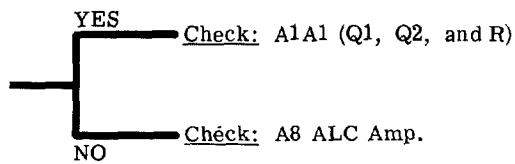
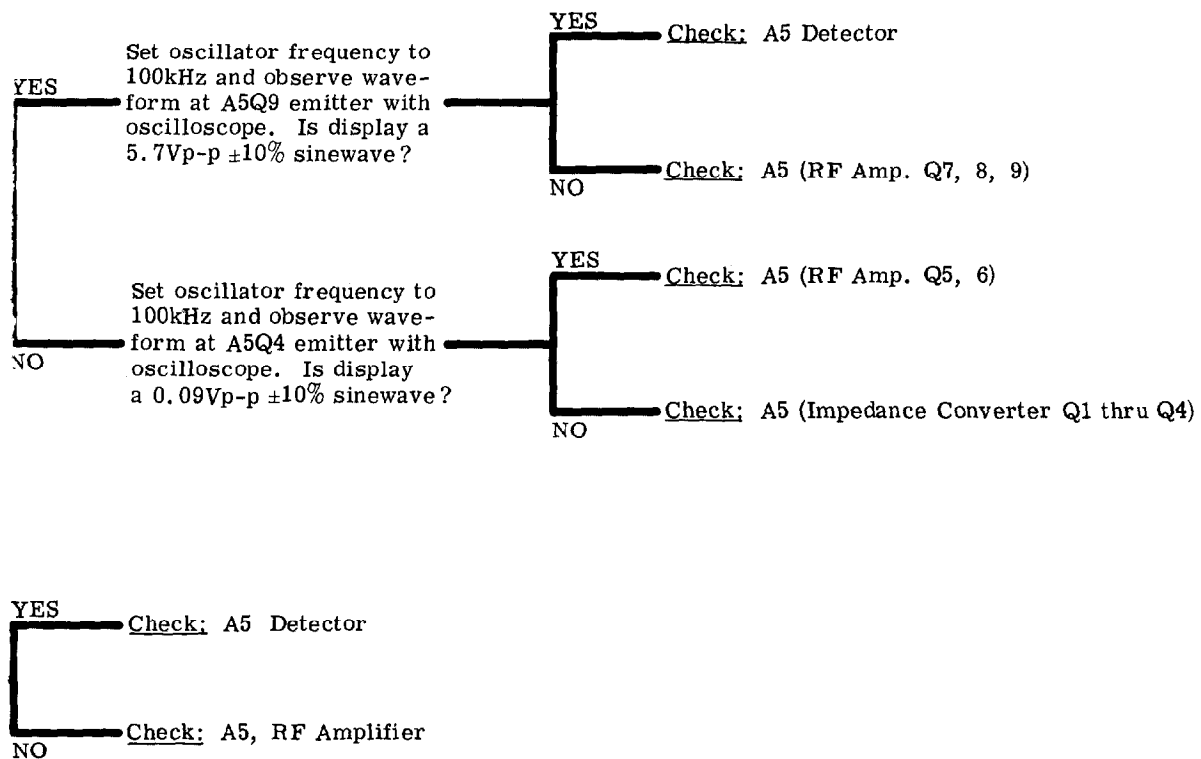

Figure 5-12. Troubleshooting, Oscillator Section
Figure 5-13. Troubleshooting, Voltmeter Section
5-38. This paragraph and those below provide information helpful to isolating a faulty circuit in a defective unit and the appropriate remedy for the trouble. Component level troubleshooting procedures are provided in Figures 5-13 and 5-14 in the form of flow diagrams [however, for simple circuits composed of only a few (active) components, these figures treat the breakdown only to circuit block level and component level troubleshooting procedure is omitted]. Before proceeding with troubleshooting, verify whether any external factor relating to the instrument operating environment is contributing to the trouble symptoms. The following paragraphs outline some considerations for such external troubles:
- d. RF Voltmeter reading should be within  $30\text{mV} \pm 0.9\text{mVrms}$  at any frequency setting. If this check fails, troubleshoot oscillator section and follow Figure 5-12 Troubleshooting Tree. If OK, troubleshoot voltmeter section and follow Figure 5-13 Troubleshooting Tree.